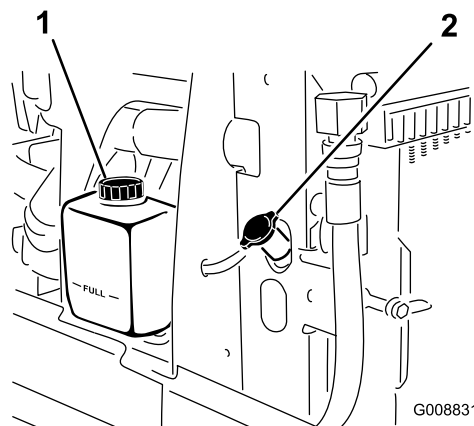

Figure 76
1. Carefully remove the radiator cap and expansion tank cap (Figure 76).